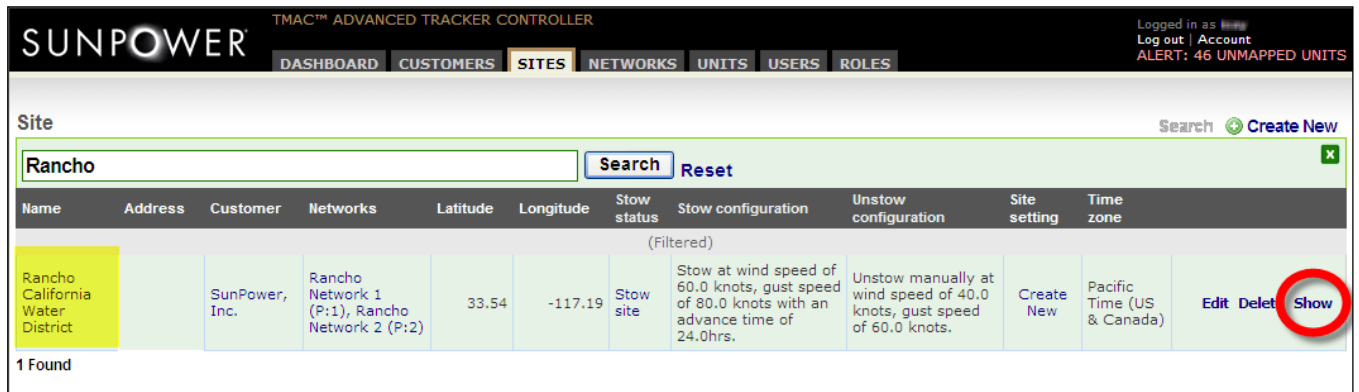

Fig. B10
- The page displays the filtered list based on the search entry (Fig. B10). Click **Show** under the last (untitled) column to display the site information.